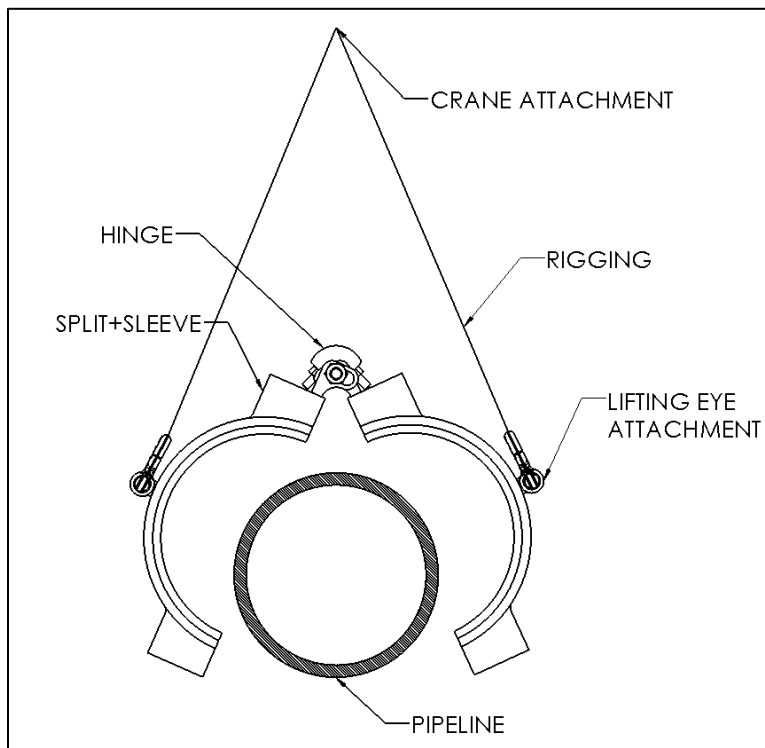

Figure 12
3. Attach properly sized rigging such as chains, cables, or straps to a single point crane attachment. The rigging should be sufficiently long enough that the rigging doesn't interfere with opening and closing of the fitting as shown in Figure 12.
4. Lift the fitting up from the single point crane attachment. The Split+Sleeve will open up as shown in Figure 12.
5. Position the fitting over the pipeline and slowly lower the fitting onto the pipeline as shown in Figure 12. The inside of the fitting should come in contact with the pipeline, and the fitting will start to close as it is lowered. Some fittings may require some additional side force to close the fitting around the pipe. Keep all body parts clear of the inside of the fitting at all times as the fitting is being lowered onto the pipe. This is to ensure safety in the event that the fitting slams closed rapidly.